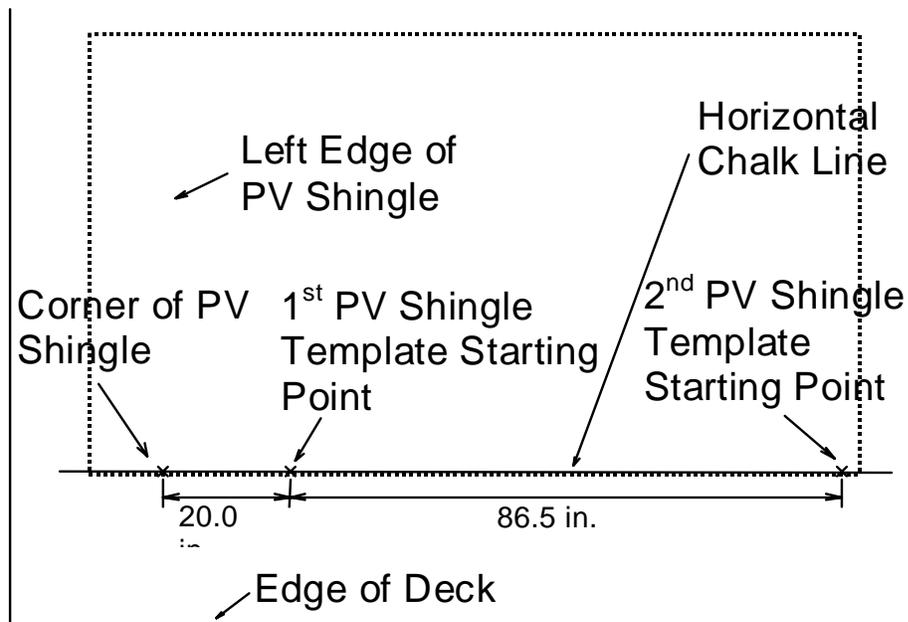

Figure 3
- 1.4 To establish the template starting point, measure 20" (50.8cm) from left corner point along horizontal line and mark position (see figure 3).
- 1.5 For every PV shingle on first row, measure an additional 86.4 inches (219.5cm) along horizontal line and mark position (see figure 3).